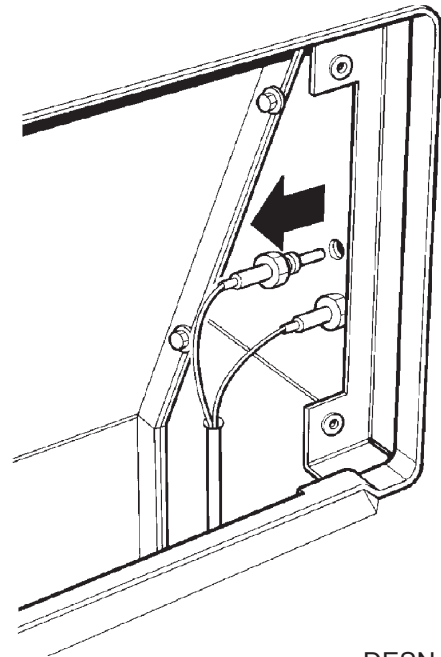

FIG. 14
6. Unscrew required thermocouple using a spanner. (See Fig. 14)